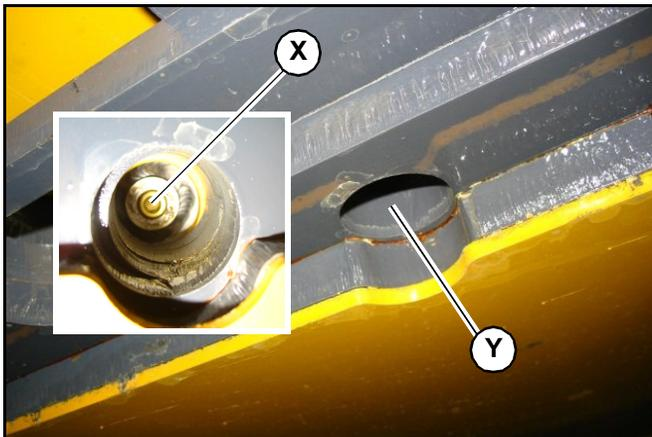

Fig. 136 – Radiator Drain Access
7. Access radiator drain plug (X, Fig. 136) through access hole (Y) in the frame underneath the radiator. Using an allen wrench, remove radiator drain plug (X) and allow the coolant to drain into the container.